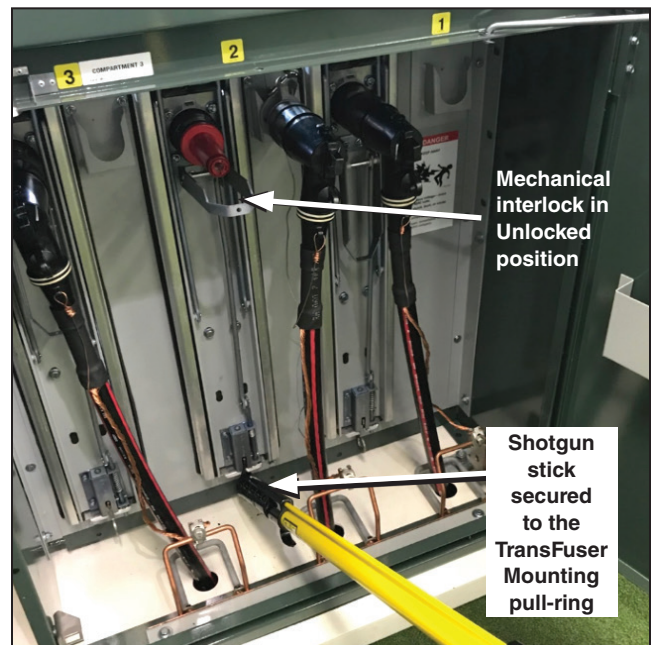

Figure 16. Unlatching (or latching) a TransFuser Mounting in the Closed position.
STEP 4. Secure the shotgun stick to the pull-ring at the lower end of the TransFuser Mounting. Be sure not to ratchet the shotgun stick all the way up when securing the pull-ring as it may hinder with the movement of the TransFuser Mounting. See Figure 16. With an outward pull, rotate the TransFuser Mounting end-for-end to expose the fuse in one motion.